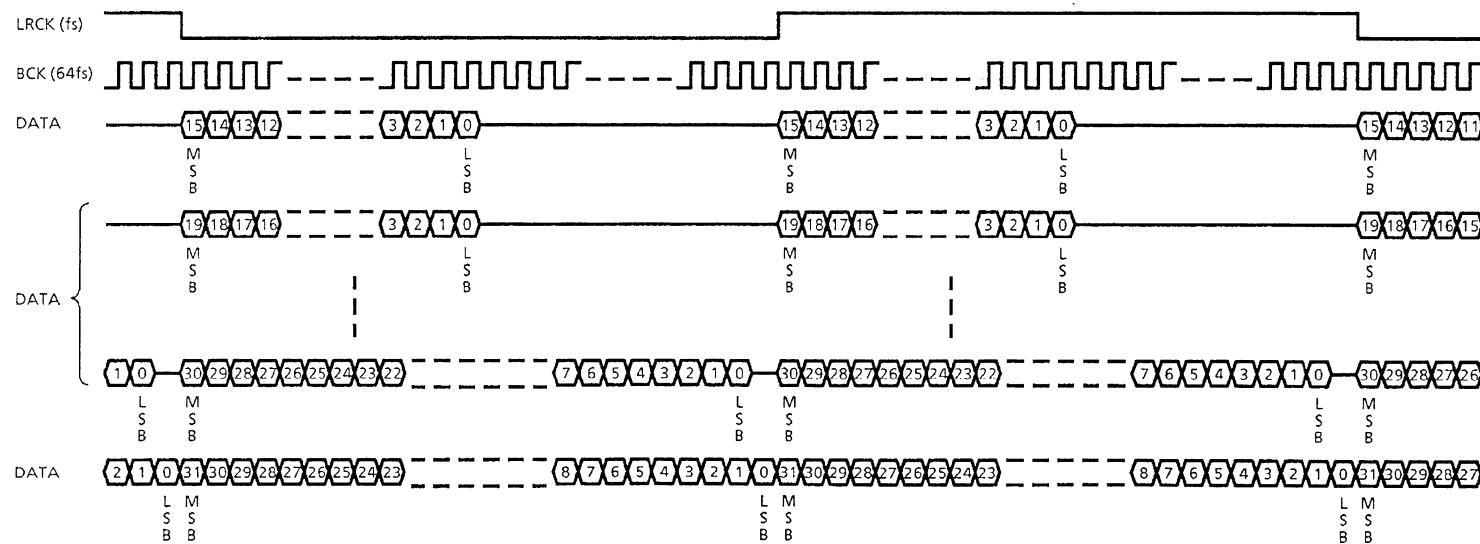

Figure 5 Serial data input timing (32 bit)
- When the input data is at least 17 bit but not more than 32 bit, refer to Figures 4 (b) and 4 (c). The input register should be set up for 32 bit processing. As shown in Figures 4 (b) and 4 (c), data is put into the padding and the priority bit modified before inputting. In order to input data before it is put into the padding, the input register must be set for 32 bit and, as shown in Figure 5, the remaining data must be reset to "zero".